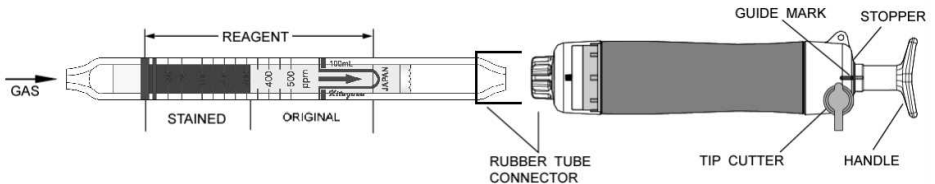

Fig.1
- ② Insert the detector tube into the aspirating pump securely as shown in Fig.1. (Arrow mark shall point to the pump.)
- ③ Align the guide marks on the handle and stopper of the aspirating pump.
- ④ Pull the pump handle at a full stroke until it locks and wait for 1 minute or until the completion of sampling is confirmed with the flow indicator of the pump. (See descriptions about the flow indicator in the instruction manual of the pump.)
- ⑤ On completion of sampling, read the scale at the maximum point of the stained layer.